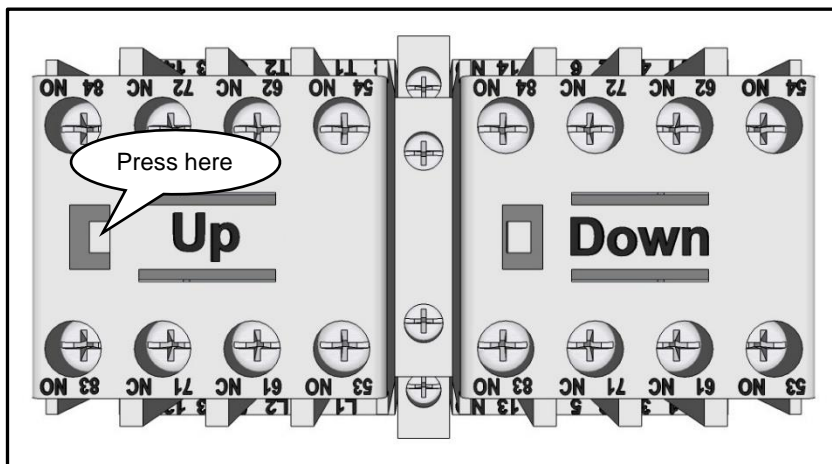

Figure 17
- 2** To check the motor rotation, open the control box and locate the Down "D" and Up "U" contactor. (see **Figure 17**)